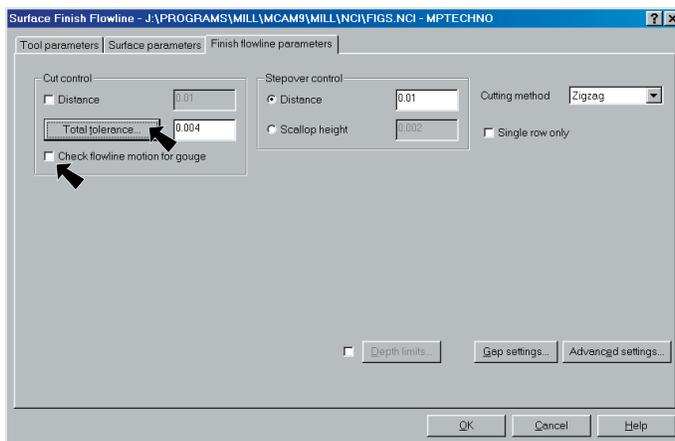

Fig. 11
Step 13. Uncheck Flowline Motion for Gouge, **Fig. 11.**